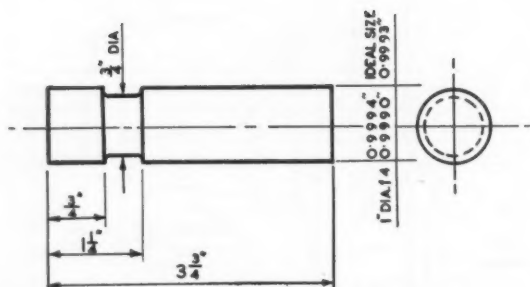
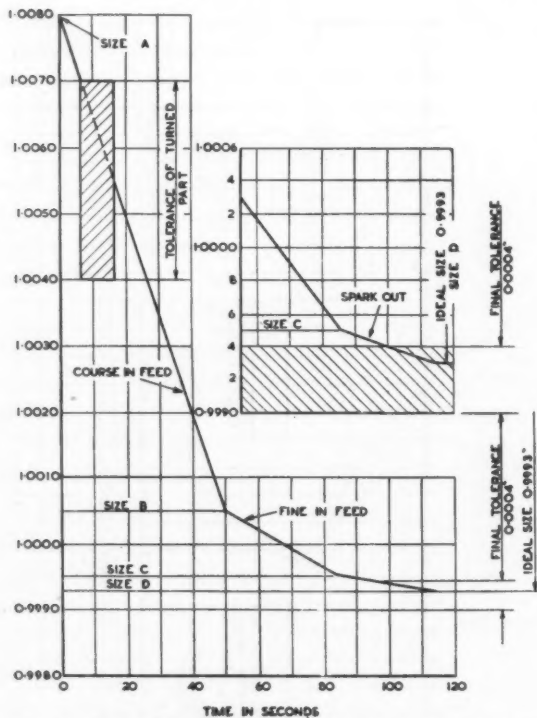

Fig. 8. Testpiece used in experiment on automatic control of size.
Fig. 9. Operating cycle for cylindrical grinding machine using automatic control.
In the finish machining of the part shown in Fig. 8 to a tolerance of 0.9994 in. to 0.9990 in. with the ideal size of 0.9993 in., let it be assumed that the part will be ground on a cylindrical grinder from a turned size of H. 1.007 in., L. 1.004 in. The grinder should be fitted with a controller designed automatically to initiate the following programme of operations as illustrated in Fig. 9:
2. after rapid approach of wheel to work, machine operates on coarse in-feed and reduces part from size A to size B (Fig. 9);
The need to apply a strict control over geometric shape necessitates a reassessment of the methods used for applying tolerances to this increasingly important characteristic of geometric shape. The boundaries of tolerance for the cylindrical part as shown in Fig. 8 could be interpreted as illustrated by Fig. 22. The inspection of a part to the conditions specified in Fig. 22 is a very complicated process and under normal commercial conditions is impracticable. The method known as the "Taylor Principle" after its originator, W. Taylor of Leicester, England, is an attempt to satisfy this condition. This principle states that a full form gauge, which in the case under consideration would be a ring gauge, shall be used for the maximum metal condition and a two point gauge, which in this example would be a caliper gauge, shall be used for the minimum metal condition. The Taylor principle is not satisfactory for some applications for the following reasons: